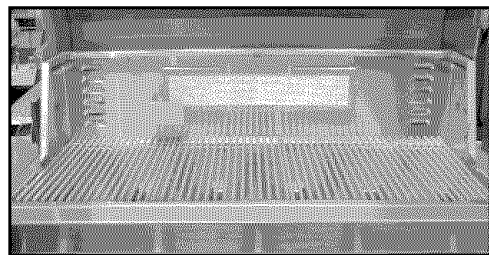

Fig. 11
3. Install cooking grates on the ledges provided on the grill to create your cooking surface. (See Fig. 11)